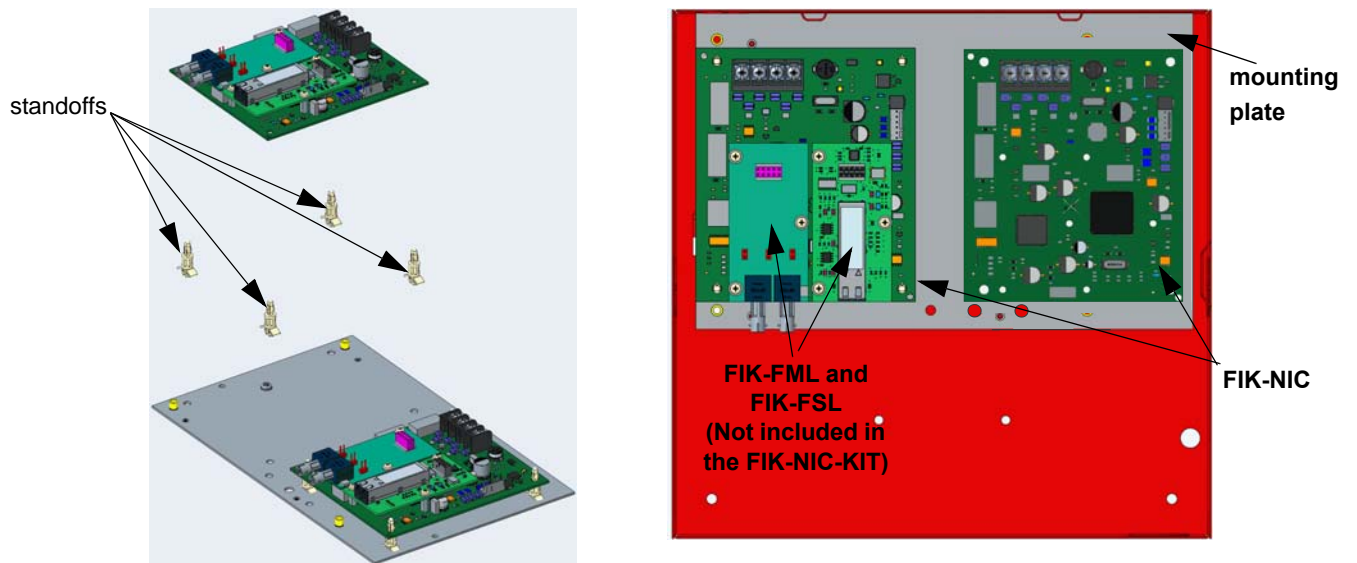

Figure 3 FIK-NIC Installation
6. Insert the eight standoffs on the board (included in the package with the cabinet) as shown in Figure 3.